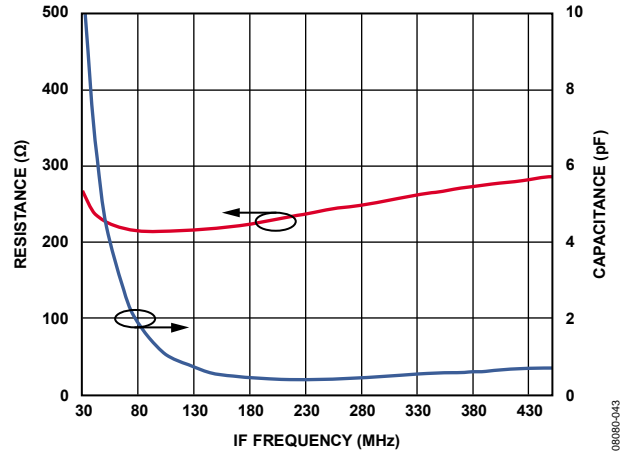
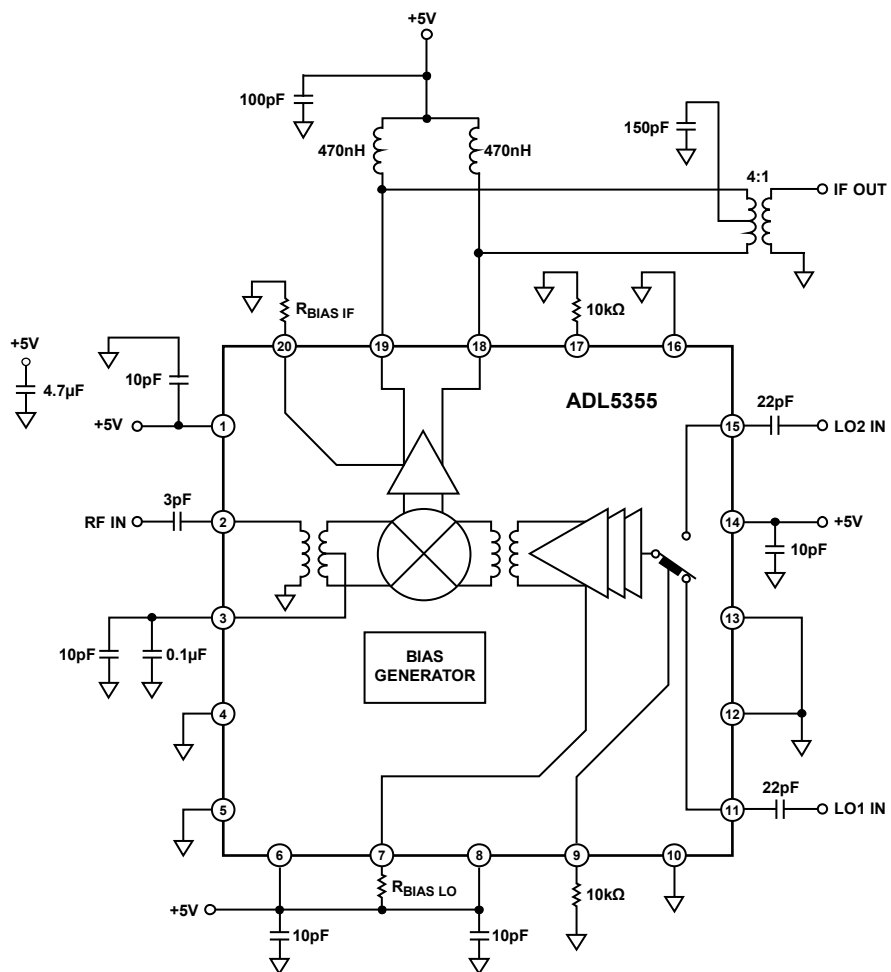

Figure 30. IF Port Return Loss
Figure 52. Typical Application Circuit
The ADL5355 mixer is designed to downconvert radio frequencies (RF) primarily between 1200 MHz and 2500 MHz to lower intermediate frequencies (IF) between 30 MHz and 450 MHz. Figure 52 depicts the basic connections of the mixer. It is recommended to ac-couple RF and LO input ports to prevent non-zero dc voltages from damaging the RF balun or LO input circuit. The RFIN capacitor value of 3 pF is recommended to provide the optimized RF input return loss for the desired frequency band.
The real part of the output impedance is approximately 200  $\Omega$ , as seen in Figure 30, which matches many commonly used SAW filters without the need for a transformer. This results in a voltage conversion gain that is approximately 6 dB higher than the power conversion gain, as shown in Table 2. When a 50  $\Omega$  output impedance is needed, use a 4:1 impedance transformer, as shown in Figure 52.